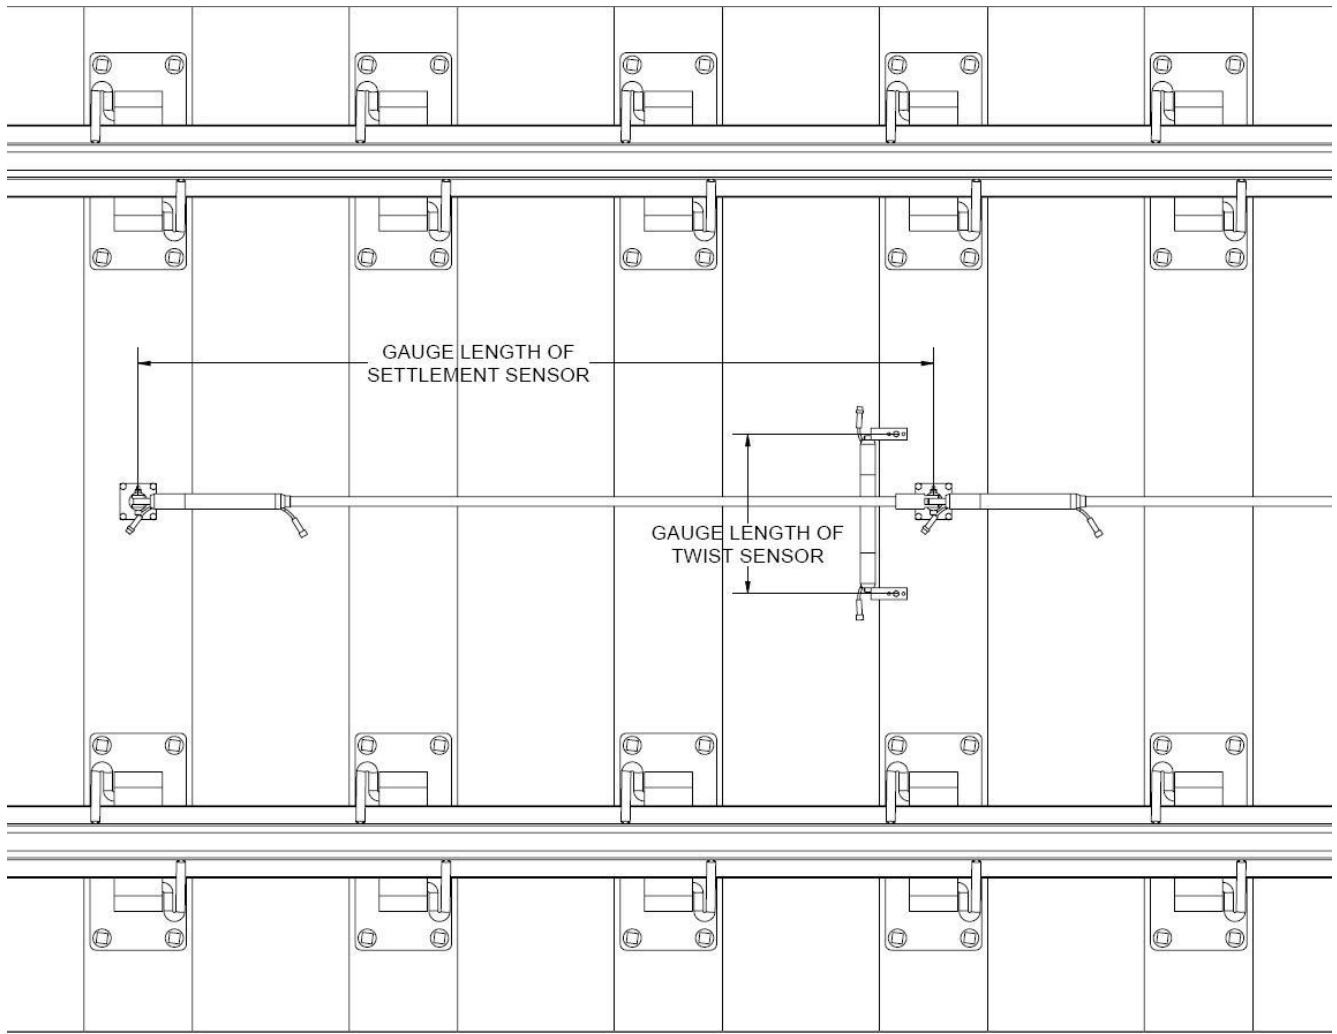

Figure 7: Installing Twist Sensor
20. Measure and record the gauge length for each set of Settlement Sensor and the corresponding serial number. Gauge length for Settlement Sensor is measure from pivot Anchor to pivot Anchor. (See figure 7)
1. Place Twist Sensor perpendicular to Settlement Sensor on the same tie where the Anchor Plate is installed at desired location. (See figure 7)
3. Connect the male connector from the Twist Sensor to the female connector from #(N) Settlement Sensor
7. Measure and record the gauge length for each Twist Sensor and the corresponding serial number. Gauge length for Twist Sensor is measure from mounting bolt to mounting bolt on the Mounting Angles. (See figure 7)